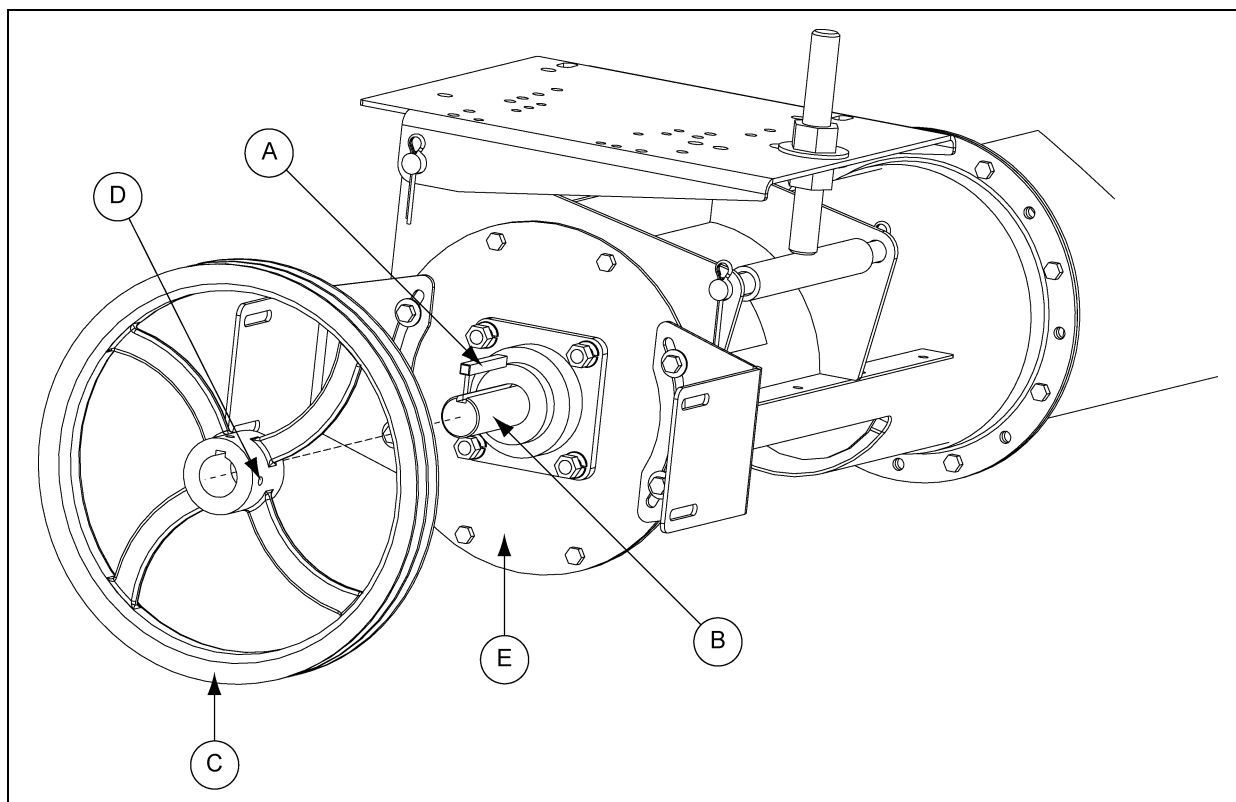

Figure 4I
1. Place and position the key (A) into the keyway located on the drive shaft (B).
2. Place the pulley (C) onto the drive shaft (B) with the set screw (D) side of the pulley facing away from the bearing plate (E). Position the pulley so that it is as close to the lock collar as possible, but not touching it.
3. Once the pulley (C) is appropriately positioned, tighten the set screw (D) with a hex head wrench to secure it to the drive shaft (B). (*See Figure 4I.*)